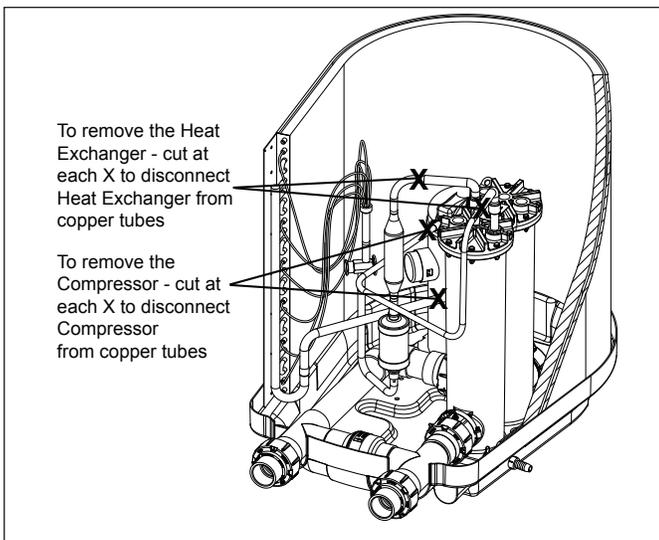
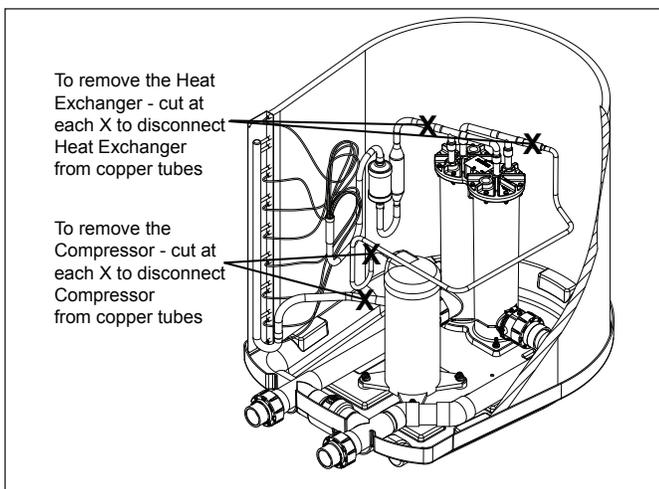

Figure 5. Cut Suction/Discharge Tubes from Compressor and Evaporator in Models EE1500
Figure 6. Cut Suction/Discharge Tubes from Compressor and Evaporator in Models EE2000 (Shown), EE2500, EE3000
5. Cut the suction and discharge copper tube pipes from the heat exchanger, refer to Figures 5 or 6 depending on your model.
2. Cut the copper suction and discharge tube sections from the compressor and evaporator, as shown in Figure 5 (EE1500) and Figure 6 (EE2000, EE2500, and EE3000).
6. Place the new compressor over the bolts, as shown in Figures 6.